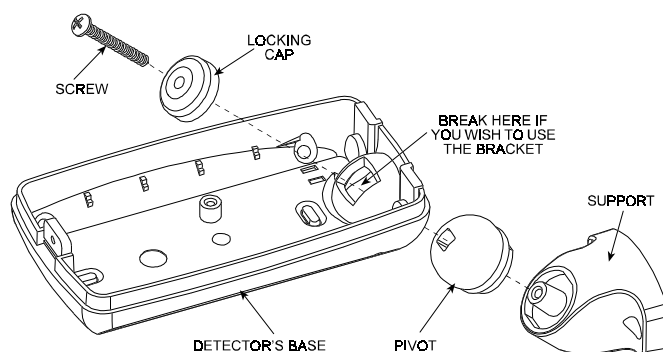
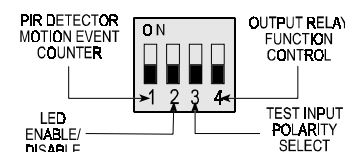

**Figure 5. Inside View**
Figure 12. DIP Switch Mode Selector
- D.** Refer to Figure 5 and punch out the mounting knockouts at the rear wall of the base (for surface mounting) or at the angled sides of the base (for corner mounting).
- E.** Punch out any one of the wiring knockouts shown in Figure 5.
The DIP switch mode selector is mounted on the unit's PC board (see Figure 5). It controls four functions as demonstrated in Figure 12 and as detailed in Table 2.